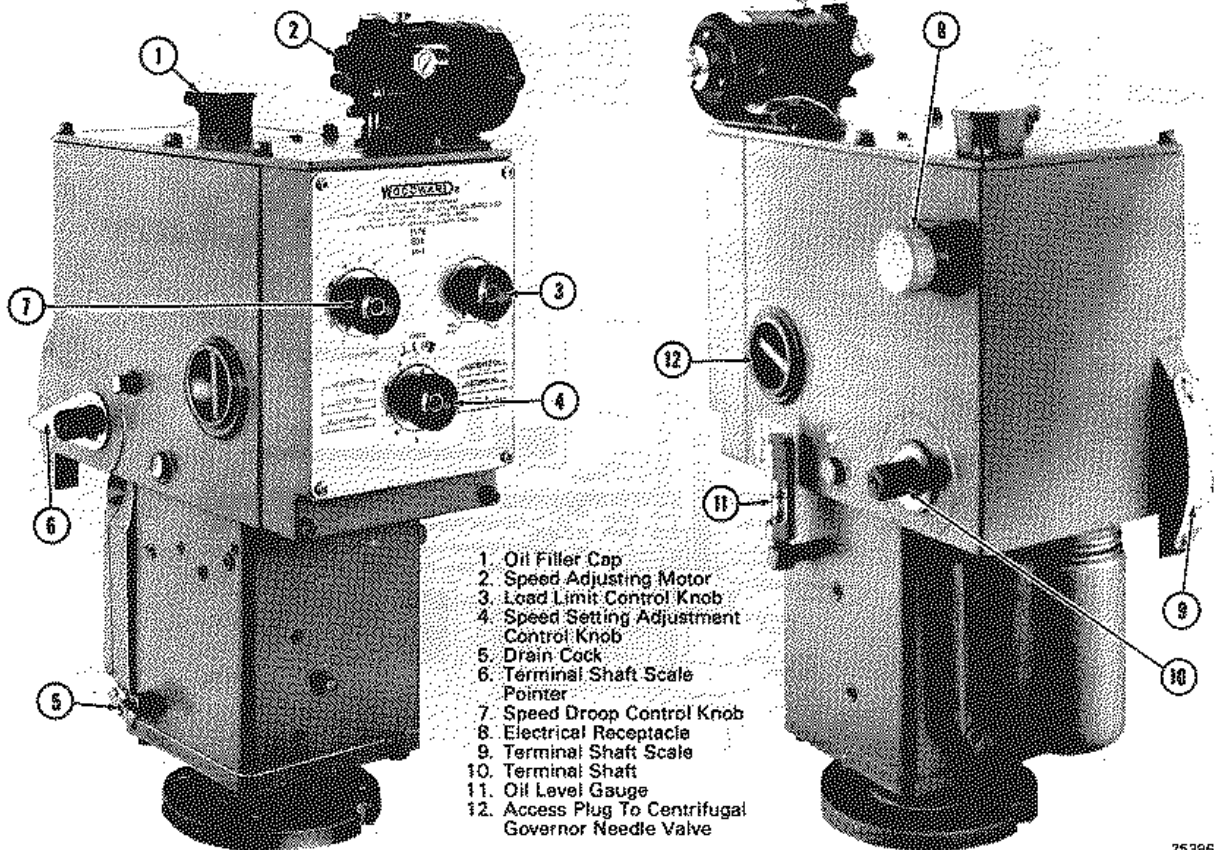

Fig. 12-11 - EGB-P Actuator
The type EGB-P actuator, Fig. 12-11, is an electrically controlled, proportional output actuator with an integral backup mechanical (centrifugal) governor and is normally used with a Model 2301 integrating electrical control unit to form a complete governing system. The operation of the system as applied to a specific application will be covered in the appropriate Operating Manual. The actuator is physically mounted on the engine governor drive assembly and therefore will be considered as an engine component. The following paragraphs will provide descriptive and maintenance information as applies to the actuator only.
2. Remove the access plug, Fig. 12-11 and open the compensating needle valve several turns.